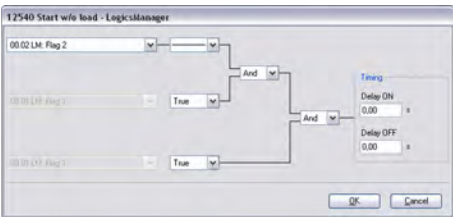

Fig. 160: LogicsManager function "Start without load"
3. ➤ The LogicsManager function "Start without load" (parameter 12540 ↗ p. 235) can be configured as shown in (Fig. 160).